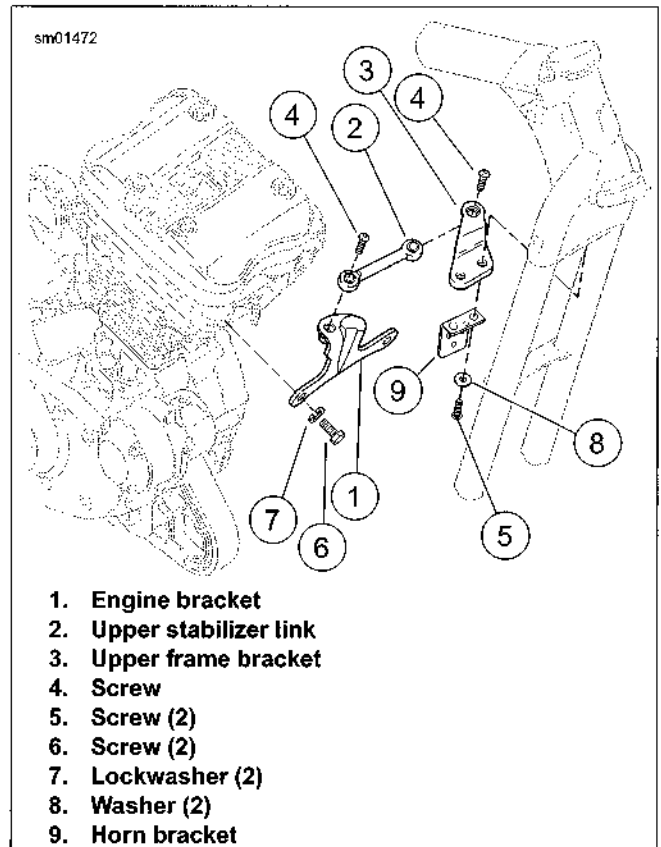

Figure 3-15. Upper Front Stabilizer Link Assembly
11. See Figure 3-15. Remove upper front stabilizer link and frame bracket:
- a. Remove screw (4) securing stabilizer link (2) to engine bracket (1).
- b. Remove screws (5) and washers (8). Remove horn bracket (9) (models with front mounted horn) and frame bracket (3) with stabilizer link.